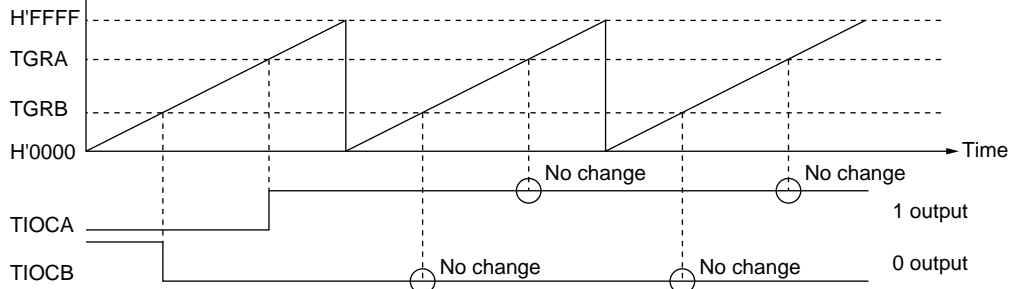

Figure 10-10 Example of 0 Output/1 Output Operation
- Figure 10-10 shows an example of 0 output/1 output.